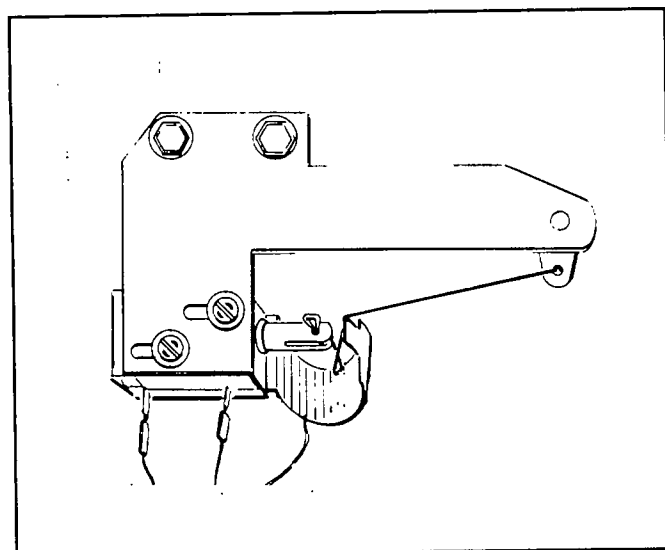

Figure 40. Automatic Choke
See Figure 40. While cranking the engine, observe automatic choke operation. The choke solenoid (CS) should pull in to close the choke for about 0.2-0.4 second. It should then de-energize to open the choke for about 2 seconds. This cyclic action should continue while the engine is cranking. If the choke solenoid does not actuate, check for binding. Also check for proper choke adjustment (see "Adjustments" section).